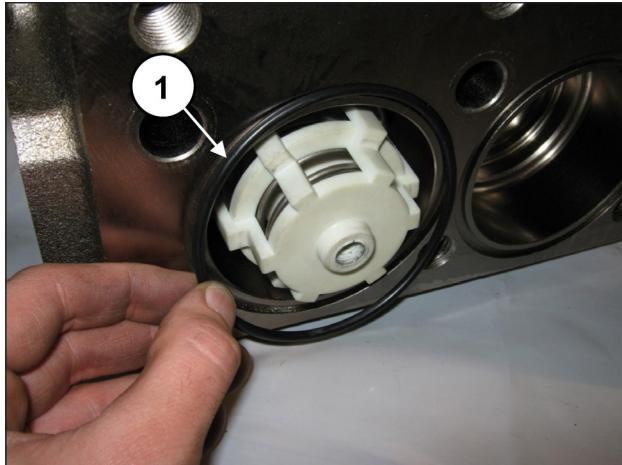

Fig. 153
Insert the front O-ring in the suction valves (pos. ①, Fig. 153).